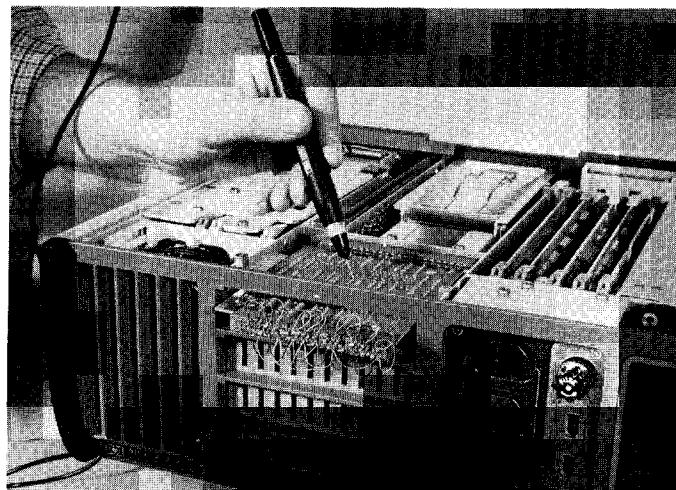

Figure 3-7. Troubleshooting the Interface
- b) Plug the circuit board into the top I/O connector, as shown in Figure 3-7. Be sure that the board is plugged in with the circuit side *up* and that the interface is *not* connected to a peripheral device!